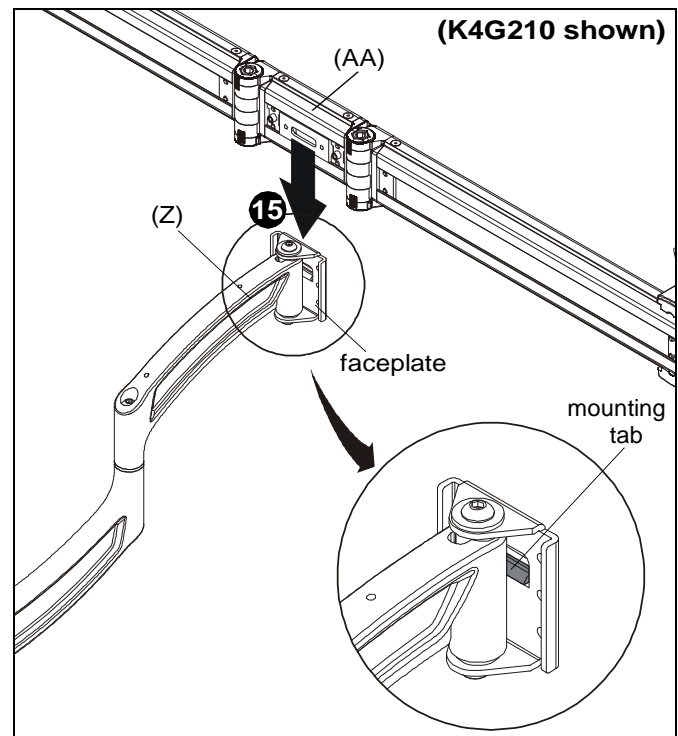

Figure 8
15. Hang array center (AA or BB) onto column arm (Z) faceplate. (See Figure 8)